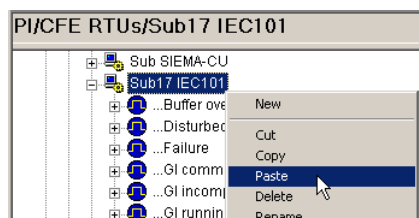

Figure 1-2.20: Pasting the Copied Instance
2. Select the parent instance under which you want to create the new instance, right-click and select **Paste** (Figure 1-2.20)